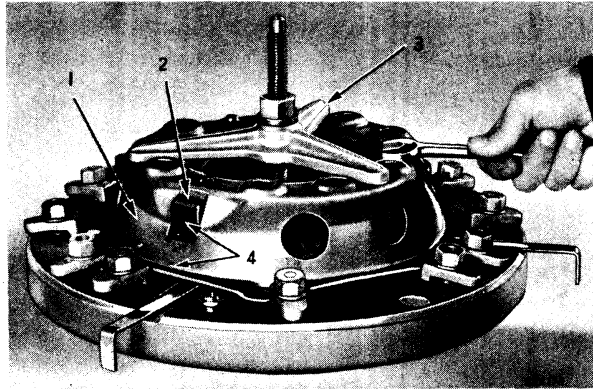

Fig. 5—Clutch Cover and Pressure Plate Assembled in Fixture
6. CLUTCH DISASSEMBLY (FIG. 5)
Coat driving lug sides (Fig. 5) with a thin coating of MOPAR Lubriplate. Assemble the lever pin and eyebolt to the release lever. Hold end of lever and eyebolt in one hand, as close together as possible. Enter the lower end of the eyebolt in the pressure plate opening and, with the free hand, insert strut in the slot of the pressure plate lug. Assemble the other two levers in the same manner.